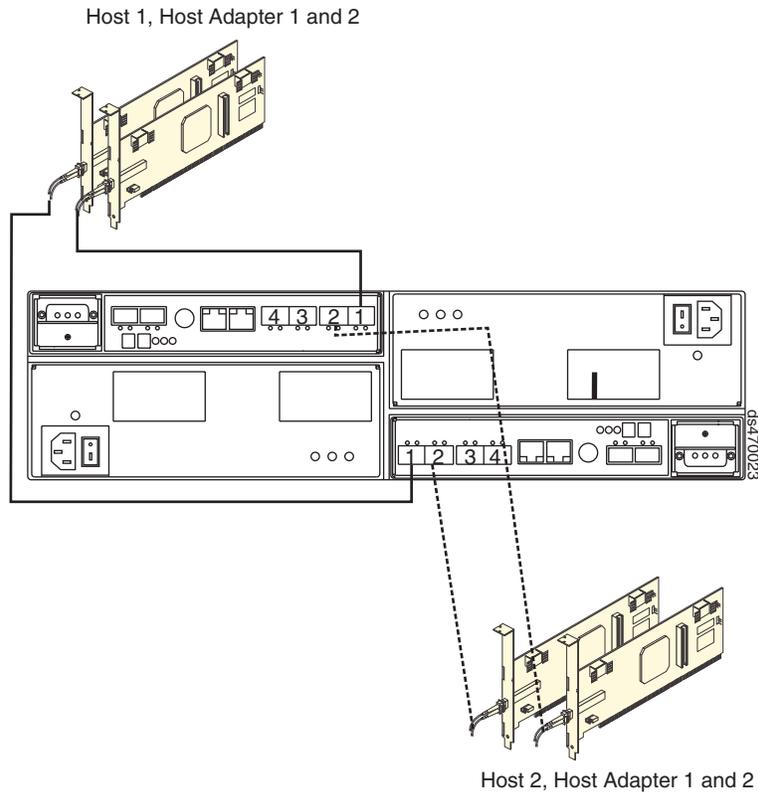
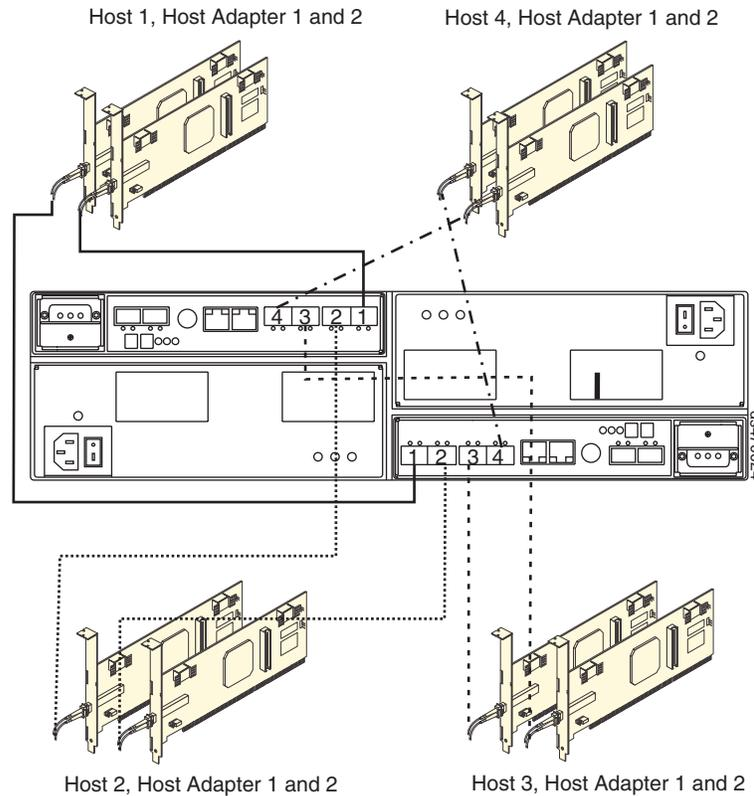

Figure 67. Cabling diagram for two redundant host connections
Figure 68. Cabling diagram for four redundant host connections
- Repeat steps 1 on page 81 and 2 on page 81 for each additional redundant host connection. You can create a maximum of two redundant host connections for the DS4700 Storage Subsystem model 70, as shown in Figure 67, or a maximum of four redundant host connections for the DS4700 Storage Subsystem model 72, as shown in Figure 68 on page 83.
**Note:** Figure 68 on page 83 shows a connection to a fibre channel host bus adapter in the DS4700 Storage Subsystem. You can also connect to fibre channel switch ports (not shown).